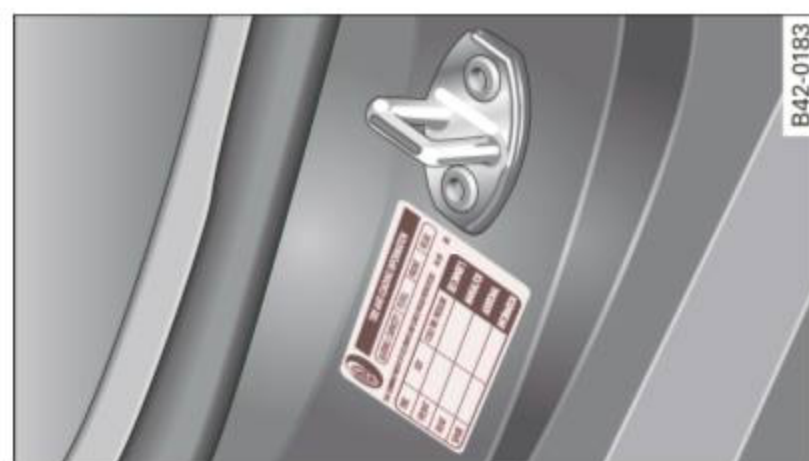

Fig. 123 Tire pressure label: located on driver's side B-pillar
See the illustration ⇒ fig. 123 for the location of the label on driver's side B-pillar (color of the actual label and exact location on the vehicle will vary slightly).
that the vehicle can carry. For the location of the tire pressure label ⇒ *page 201*, fig. 123.
The tire pressure label on your Audi lists the recommended cold tire inflation pressures for the new, original equipment tires that were on your vehicle at the time it was manufactured. For the location of the label ⇒ *page 201*, fig. 123.
The tire pressure label on your Audi also lists the maximum combined weight of all of the occupants and luggage or other cargo that the vehicle can carry. For the location of the label ⇒ *page 201*, fig. 123.
1. Locate the statement “THE COMBINED WEIGHT OF OCCUPANTS AND CARGO SHOULD NEVER EXCEED XXX KG OR XXX LBS” on your vehicle’s placard (tire inflation pressure label) $\Rightarrow$ *page 201*, fig. 123.
3. Subtract the combined weight of the driver and passengers from “XXX” kilograms or “XXX” pounds shown on the sticker $\Rightarrow$ *page 201*, fig. 123.